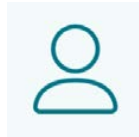

Figure 116. User Menu
1. Open the main menu by clicking the top left icon. See Figure 116.